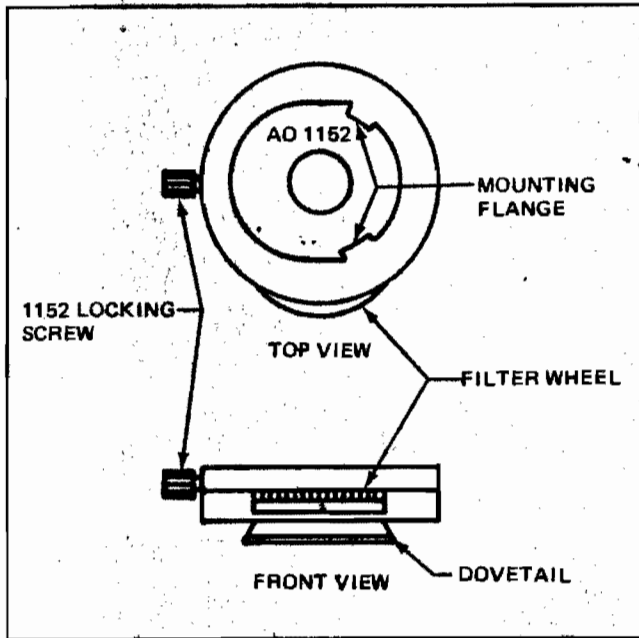

Figure 3
Examine Figure 3. You will notice the 1152 has a dovetail similar to the one on the Body, which you have just removed.
4. Loosen the 1152 Locking-Screw so the Body Dovetail can be inserted into the 1152 Mounting Flange (Figure 3).
1. Dial in the analyzer by rotating the 1152 Filter Wheel to Position 1 (Figure 3). Make sure the Filter Wheel achieves a positive lock by means of its detent stop.